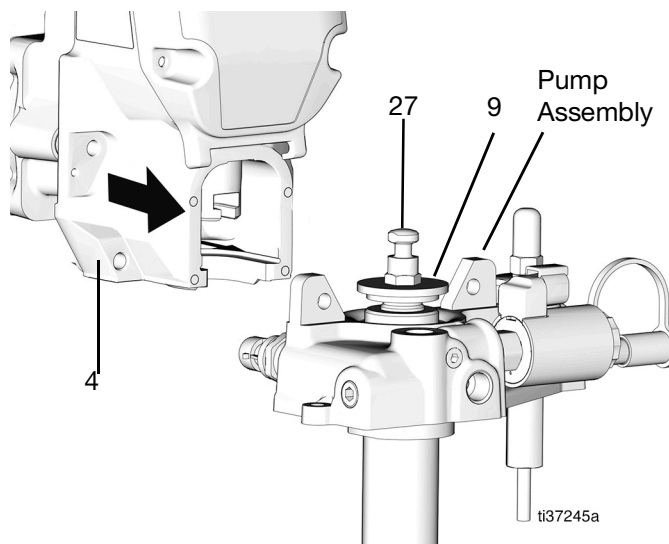

FIG. 67
27. Fit the pump assembly into the gear head (4). The retaining nut (9) can be loosened to increase the gap. Line up the pump rod (27) with the cut out and slide into place (FIG. 67).